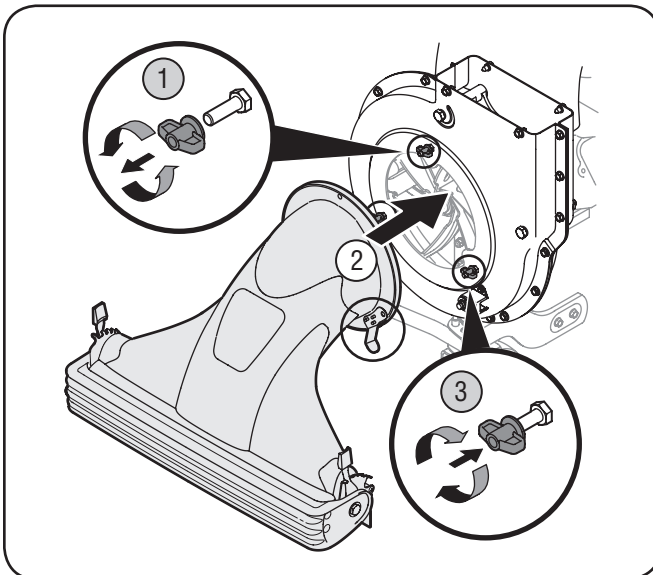

Figure 3-1
1. Remove three wing nuts from the front of the chipper shredder vacuum. See Figure 3-1.
3. Secure with wing nuts just removed. See Figure 3-1.
NOTE: The metal tab on the nozzle must depress the safety switch button attached to the front of the chipper shredder vacuum or engine will not start. See Figure 3-1.